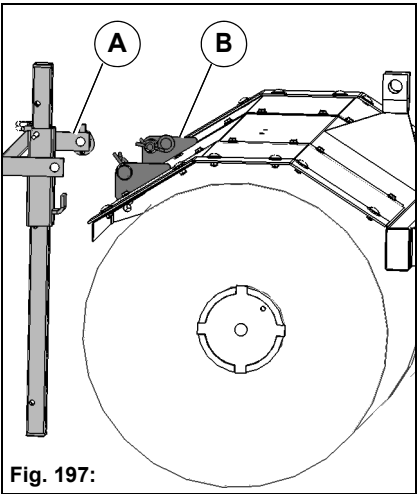

Fig. 197:
1. Insert the support **Fig. 197-A** (optional) in the front holder **Fig. 197-B**.